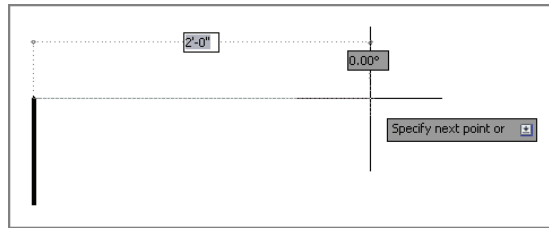

FIGURE 3.4 Using Snap with Dynamic Input to gauge distances without typing
7. Type L, and press Enter twice to continue drawing from the last point clicked. Toggle Grid Display off and Dynamic Input on in the status bar. Move the cursor horizontally to the right from the point at which the rubberband is anchored. Notice that 1/2" (or 10 mm) increments are all that show up on screen; this is due to Snap. Snap can be used independently of the grid; the grid is merely a visual drawing aid. Click on the drawing canvas when the dynamic input value reads 2'-0" (or 600 mm), as shown in Figure 3.4. Leave the file open for work in the next section.